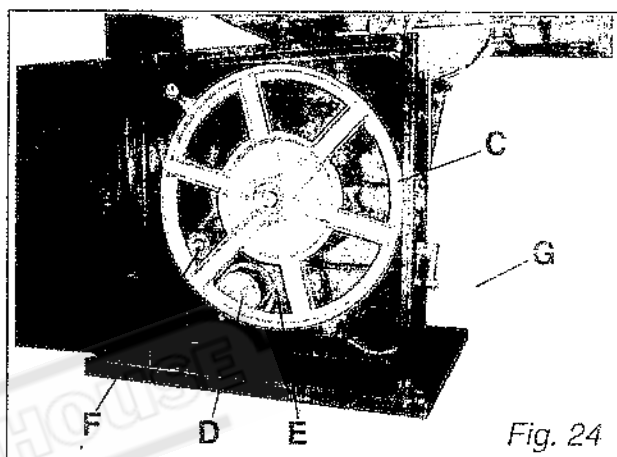

Fig. 24
The lower bandwheel (C) *Fig. 24* has two, integral, multi "V" form pulleys and the motor shaft has a twin multi "V" form pulley (D) *Fig. 24*.
The multi "V" belt (E) *Fig. 24* passes around the bandwheel pulley, the motor pulley and the plain tension roller (F) *Fig. 24*. The belt tension is released and applied by using the cranked handle (G) *Fig. 24*, this moves the tension roller and allows the speed to be changed.